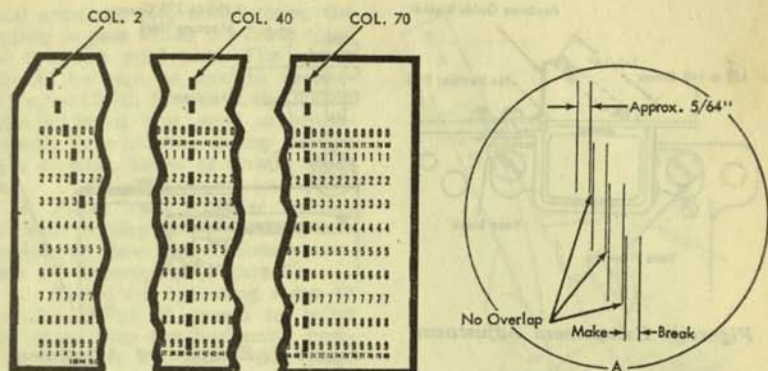

Figure 4. Program Sensing Adjustment
3. Prepare a program card as indicated in Figure 4. Adjust each stationary contact for 3/8 turn additional travel after the contact makes while reading a hole. Use a meter to determine the make time accurately.